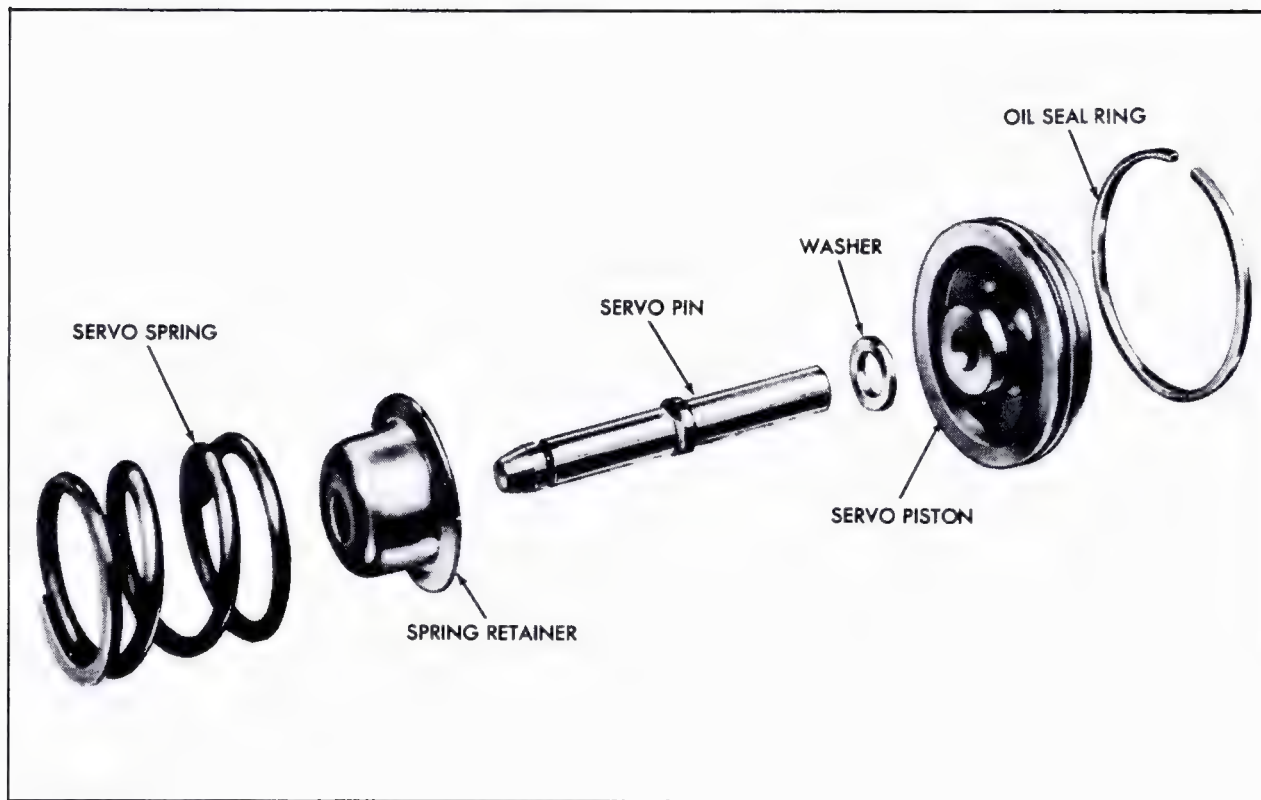

Fig. 7-217 Front Servo Disassembled
- a. Reassemble parts of front servo, Fig. 7-217, making sure tapered end of servo pin is pointing through the spring and spring retainer, and install in bore in case.